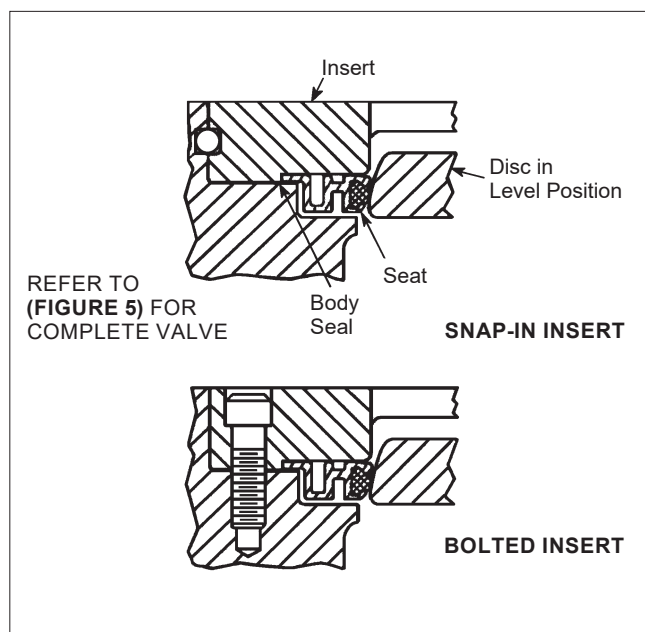

Figure 10.
3. Remove the seat (5) and discard. Remove the body seal (40) from the insert and body.
9. A body seal (40) is required between the seat tail and body as shown in **(Figure 10)**. The valve uses a graphite type gasket. This is installed in accordance with the following steps: